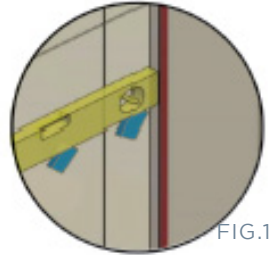

FIG.17
- Remove plastic backing from stabiliser blocks and press firmly onto wall (FIG 17).